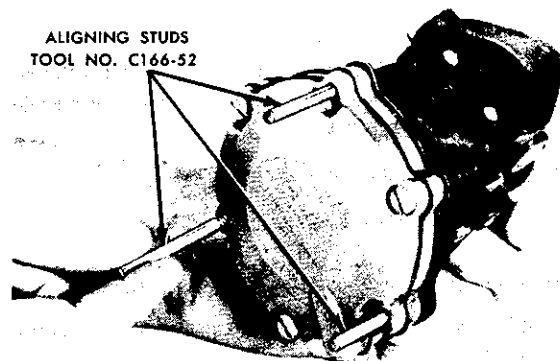

FIG. 13
11. Install three diaphragm assembly screws, then remove aligning studs and install remaining screws. Fig. 13.